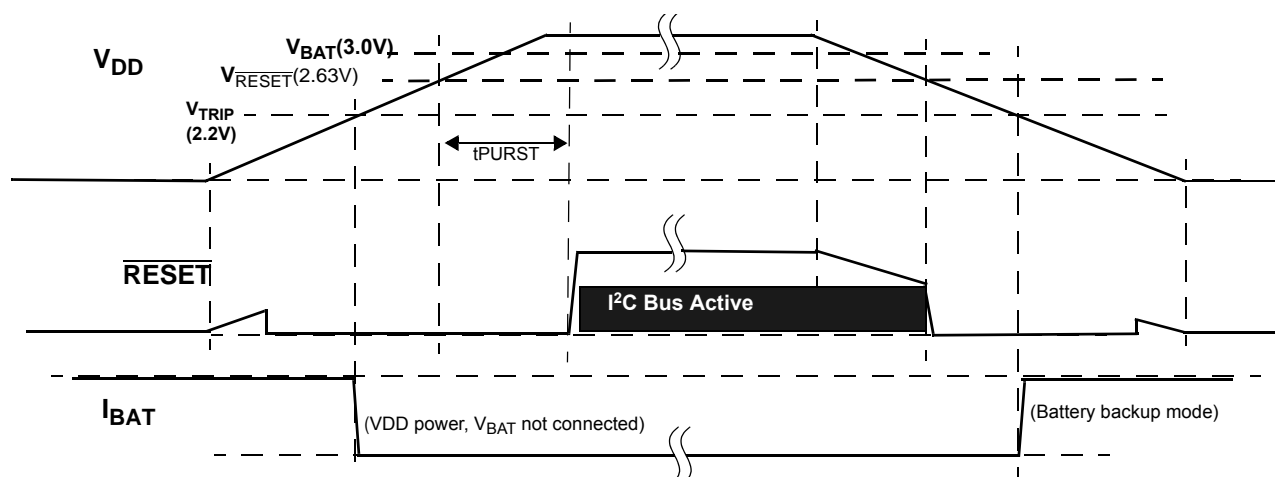

FIGURE 29. EXAMPLE RESET OPERATION IN MODE A OR C
- Mode A - In this mode selection bits indicate a low V_{DD} switchover combined with I²C operation in battery backup mode. In actuality the V_{DD} will go below V_{RESET} before switching to battery backup, which will disable I²C ANYTIME the device goes into battery backup mode. Regardless of the battery voltage, the I²C will work down to the V_{RESET} voltage (See Figure 29).
- Mode C - In this mode the selection bits indicate a low V_{DD} switchover combined with no communications in battery backup. Operation is actually identical to Mode A with I²C communications down to $V_{DD} = V_{RESET}$, then no communications (see Figure 29).